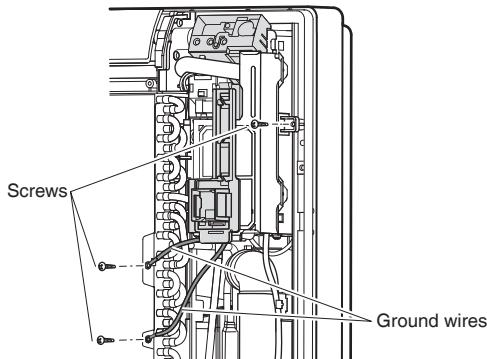

Fig. 6
- 5) After removing the ground wires (2 screws), remove the electrical wiring box (1 screw). (See **Fig. 6**)